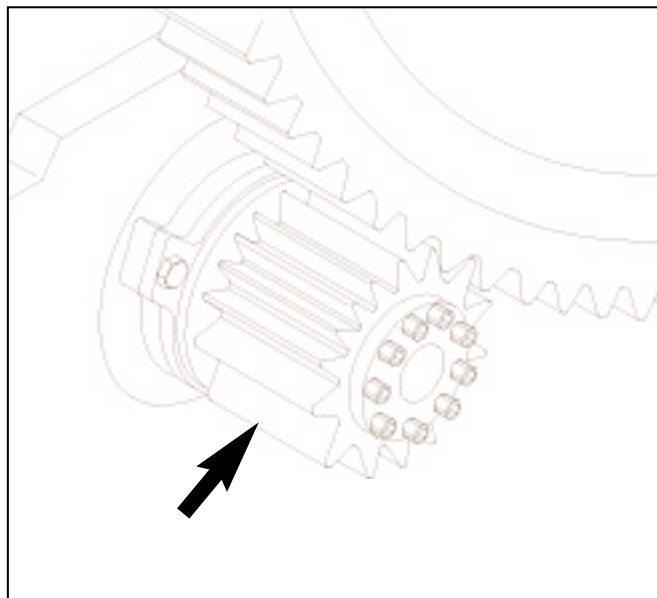

Figure 11.7 PINION SHAFT
Before replacing pinion shaft (see figure 11.7), make sure machine is in safe position. Stripper head frame and pallet receiver frame must be down. Also, make sure there is no tension on the pinion gear.
A. Removing the pinion shaft (see figure 11.7)